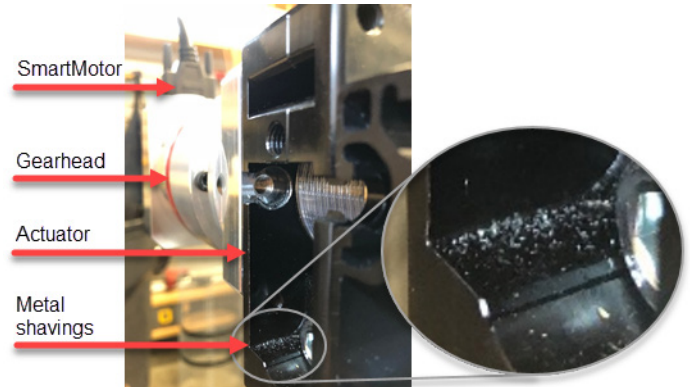

Figure 5: Metal shavings in actuator cavity
4. **Resolve the problem and final test:** The customer removed some covers to reveal a cavity where the gearhead and actuator were mated, see Figure 5. Metal shavings were found, indicating there was mechanical misalignment causing interference. Further analysis uncovered eccentricities in the rotating hardware. The actuator manufacturer was notified and supplied the customer with new hardware that resolved the issue.